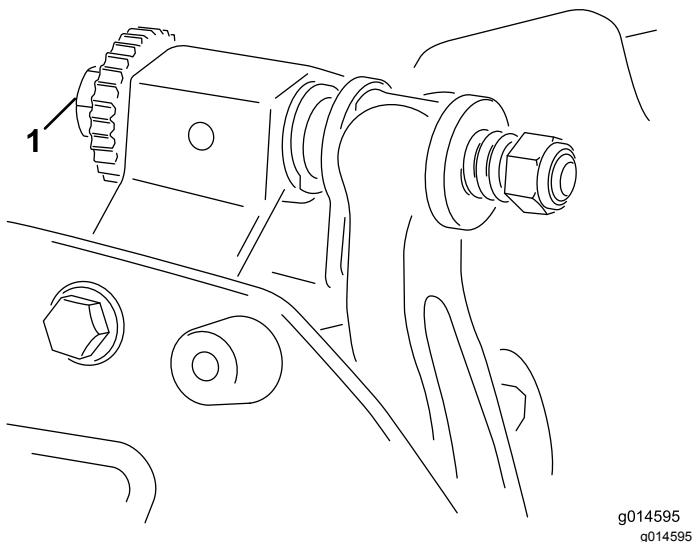

Figure 8
- A. Turn the bedbar adjusting screws clockwise (Figure 8), 1 click at a time, until you feel and hear light contact.
6. Turn the right bedbar adjusting screw (Figure 8) until you feel light pressure on the shim when sliding it side-to-side. Remove the shim.